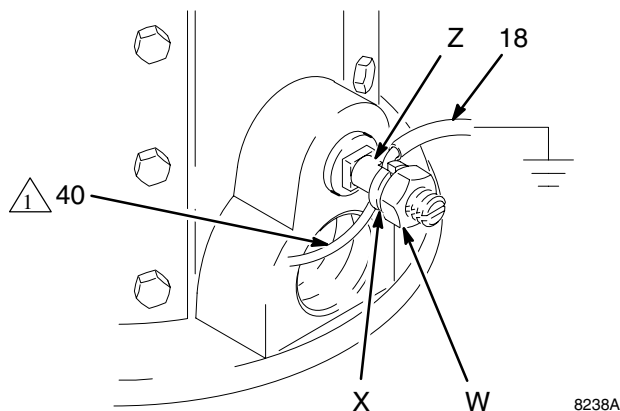

Fig. 1
1. *Pump*: use the ground wire and clamp (supplied). See Fig. 1. Loosen the grounding lug locknut (W) and washer (X). Insert one end of the ground wire (18) into the slot in lug (Z) and tighten the locknut securely. Connect the other end of the wire to a true earth ground.
2. *Agitator (Models 232443, 232455, 232461, and 232467 only)*: one end of the agitator ground wire (40, supplied) is fastened to the agitator motor with a screw. Insert the other end of the ground wire into the slot in lug (Z). Insert the pump ground wire (18) as described in step 1 and tighten the locknut (W) securely.